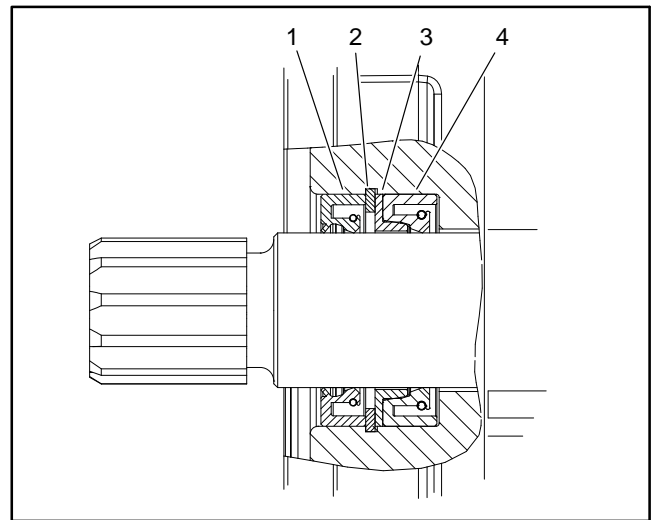

Figure 64
10. Carefully remove dust seal, retaining ring, backup washer and shaft seal from the front flange (Fig. 64). Discard removed seals.
2. Install new seals into front flange (Fig. 64):